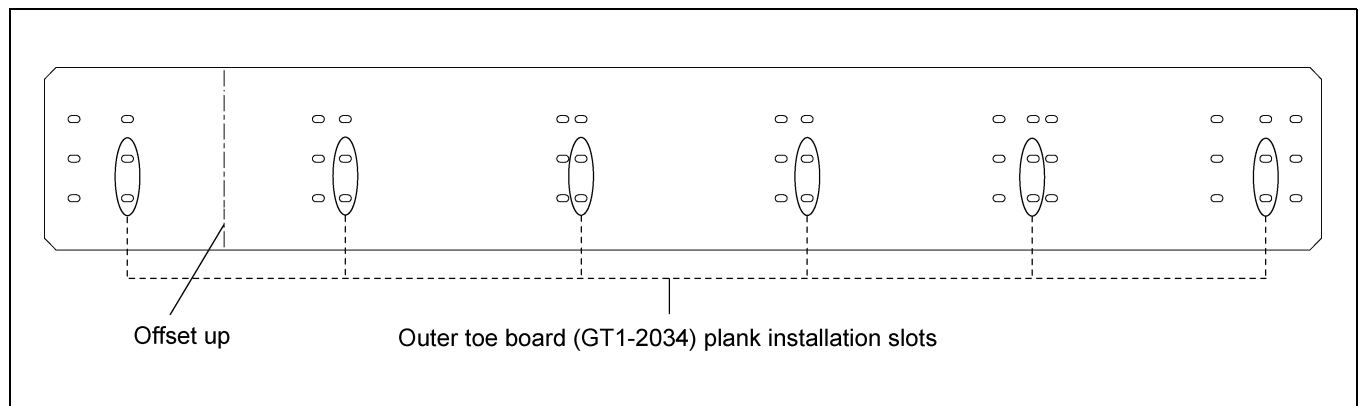

Figure 4S
3. Outer toe board (GT1-2034) is aligned and attached to the planks with the corresponding slots as shown in Figure 4S.